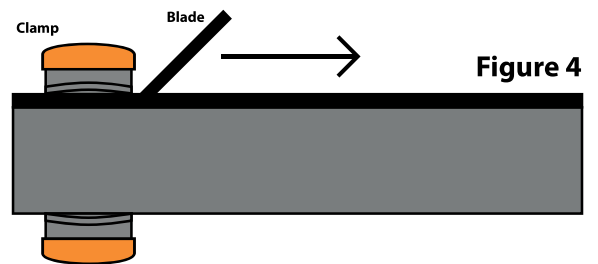

Figure 4
Step 7: Starting on the clamped end and moving to the non-clamped end, use a fresh razor blade at a 45° angle to act as a squeegee, slightly scraping/pulling over the rubber to force out any bubbles. Alternatively, you can use a 2-3" hard plastic roller with firm and even pressure. Some glue may squeeze out, but this can be cleaned up after its set. It's important that there are no bubbles or elevated areas that would prevent the track/rubber from laying flat on the surface. See figure 4.